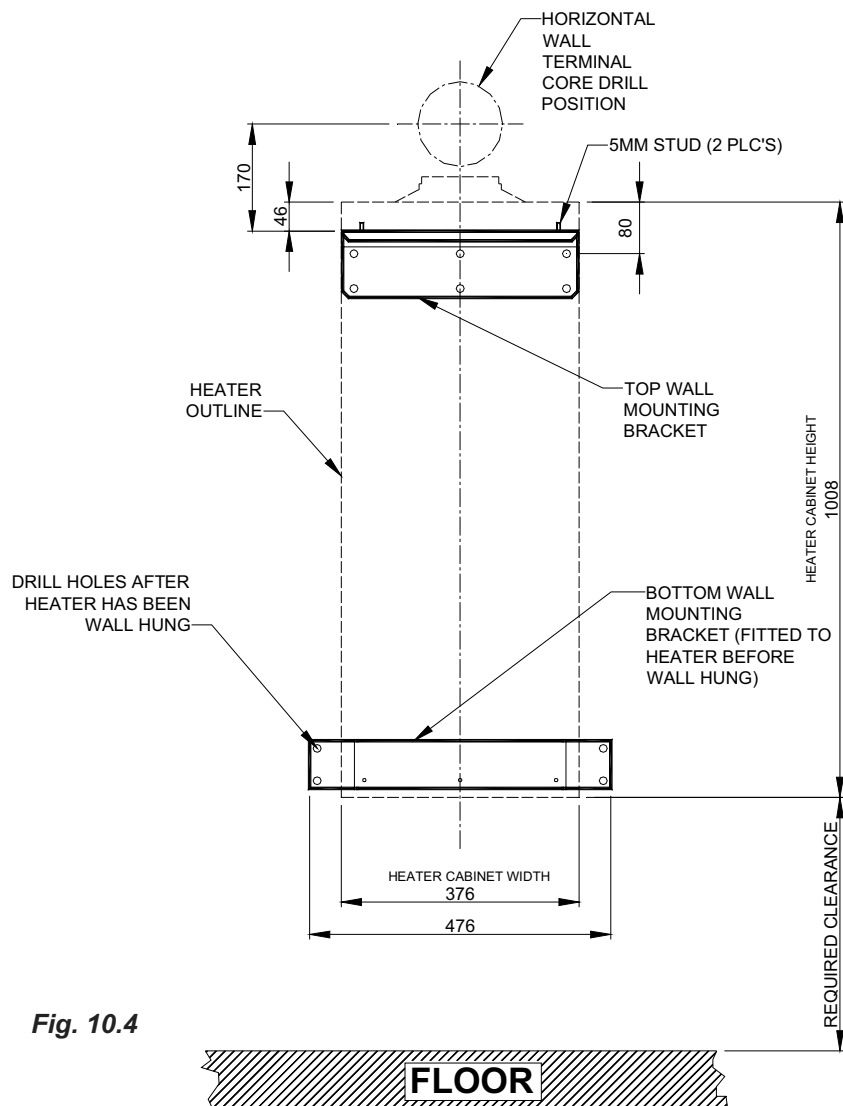

Fig. 10.4
- Screw the Top Wall Mounting Bracket level to the wall. (**Fig 10.4**)
- With the Heater now in position drill and screw the Bottom Wall Mounting Bracket to the wall. See (**Fig 10.4**)